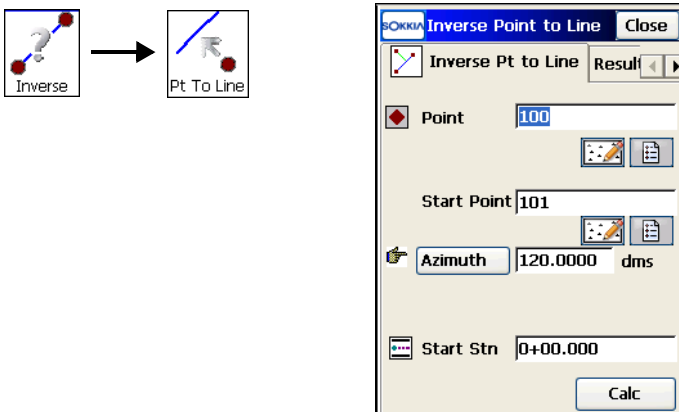

Figure 10-3. Inverse Point to Line.
1. On *Inverse Point to Line* screen (Figure 10-3), select the point name, and set the line by its start point, azimuth, and starting station (Figure 10-3).